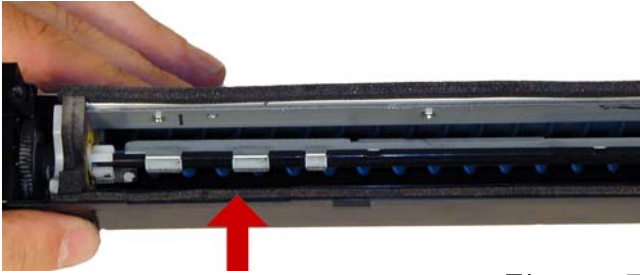

Figure 52
30) If the foam seal came loose, replace it now. You may have to condense the seal a little in order for it to fit properly. See **Figure 52**